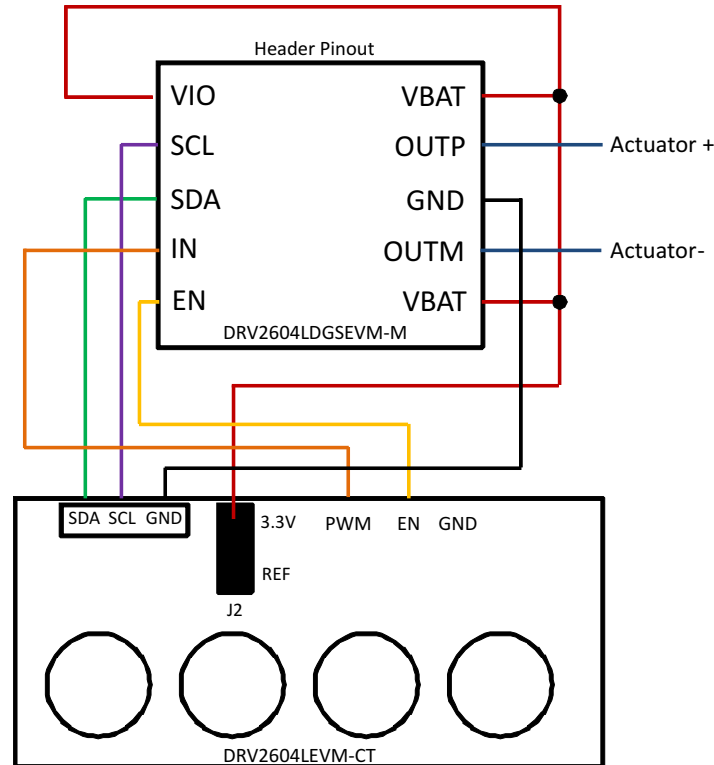

Figure 3. DRV2604LDGSEVM-M Connection to DRV2604LEVM-CT
This section describes how to setup and operate the DRV2604LDGSEVM-M with either the DRV2604LEVM-CT board. The "non-L" version of the EVM-CT boards can be used in place of the "L" version but the firmware needs to be updated to the "L" version. Figure 3 shows the connection of the breakout board to the DRV2604LEVM-CT board.
1. Connect the DRV2604LDGSEVM-M to the DRV2604LEVM-CT with IC test hook lead cables as shown in Figure 3. If VIO header pin is not being used, it can be left floating. Connect a separate actuator to the OUTP and OUTM headers of the DRV2604LDGSEVM-M.